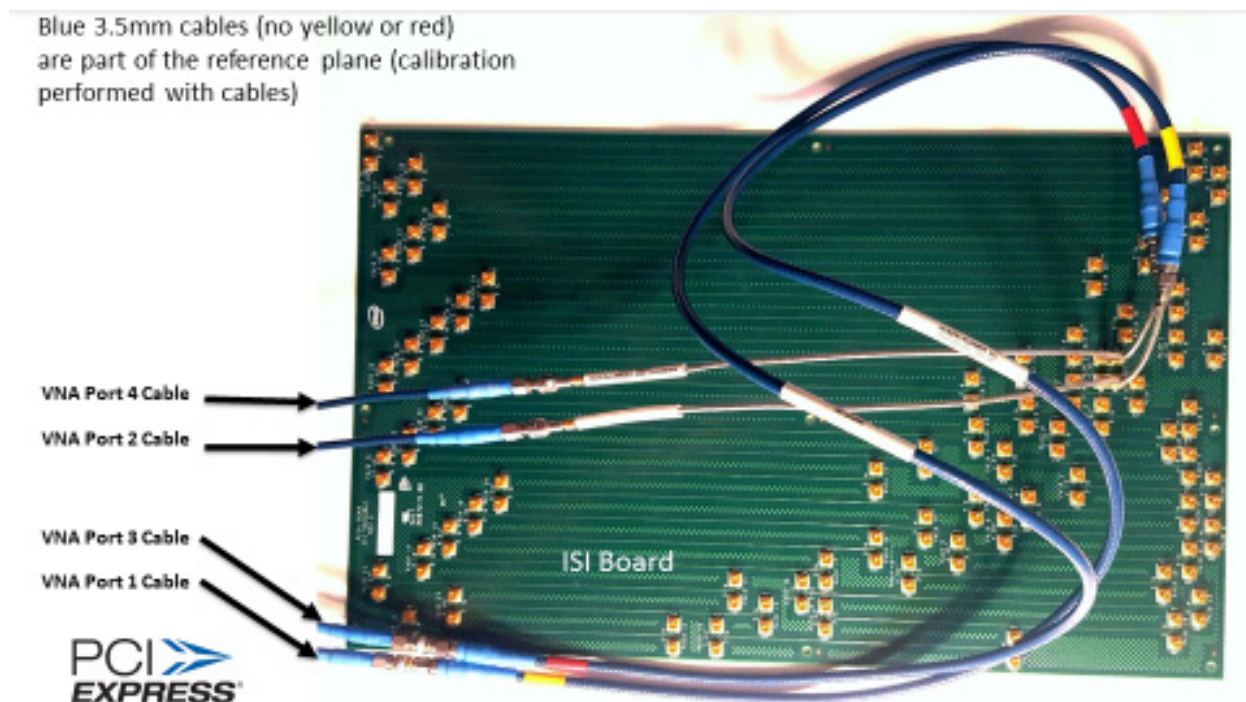

Figure 15. APCI TX (Variable calibration with cables)
- ❑ Variable ISI with cables (ISI board, SMP cable, and SMA cable), see Figure 15.
- Variable ISI with cables (ISI board, SMP cable, and SMA cable), see Figure 15.